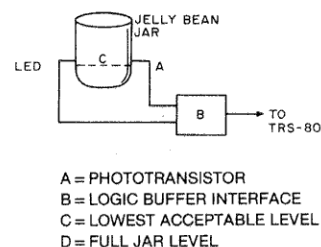

Figure 2
to monitor the amount of jelly beans in your cupboard. By devising a simple jelly bean level detector consisting of an infrared LED and a photo transistor you will know when your supply is getting low (see Fig. 2). When the level of jelly beans drops below the critical level, the infrared beam from the LED turns on the phototransistor causing a temporary high at port address 243. The TRS-80 notices this by checking the port address 243 for a high using the INP(243) command in a loop. Once a high is sensed at this address, the TRS-80 program outputs a command to an auto-dialer circuit which phones the local jelly bean emporium. The cassette is then turned on and an endless loop cassette orders more jelly beans continuously for at least